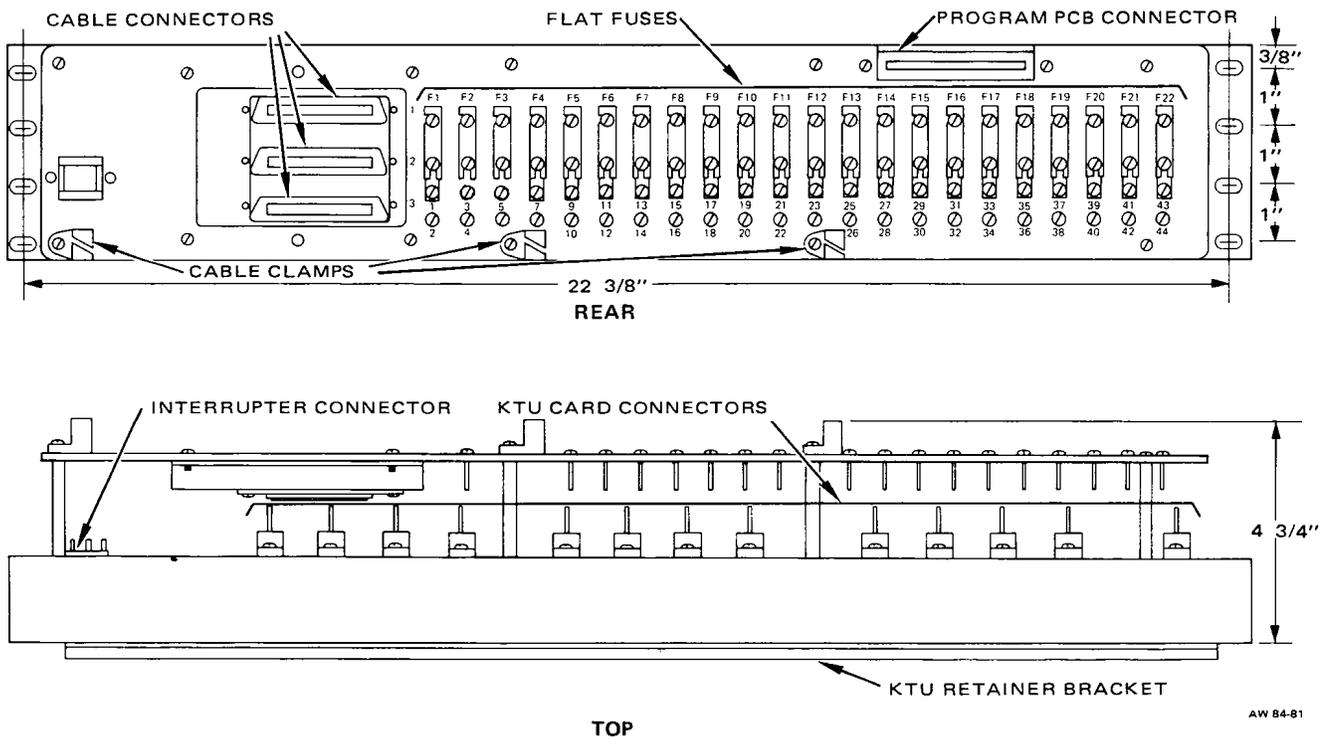

Figure 2: Terminal Panel Assembly
**2.06** The terminal panel assembly makes up the back of the 584C card panel. It is equipped with three 25-pair male connectors, an 18-contact printed circuit board connector, screw terminals for power supply connections, and 22 non-indicating flat fuses. Arrangement of the terminal panel assembly is shown in Figure 2.